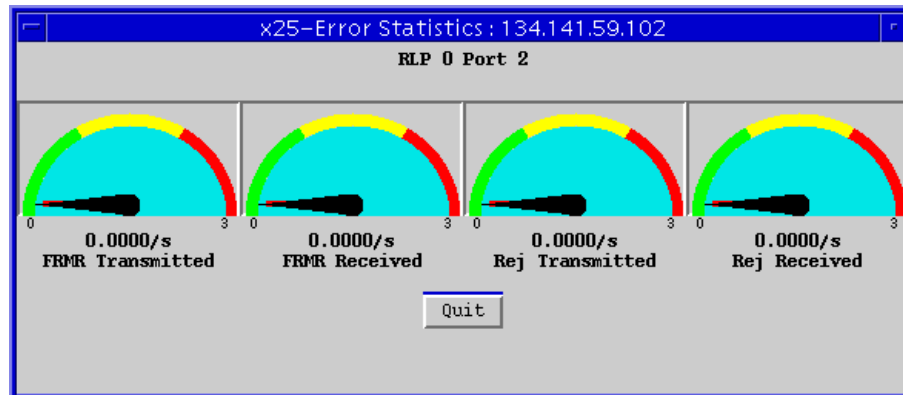

Figure 6-4. X.25 Error Stats
2. Drag down to **X25 Errors**, and release. The X25 Error Statistics window, Figure 6-4, will appear.